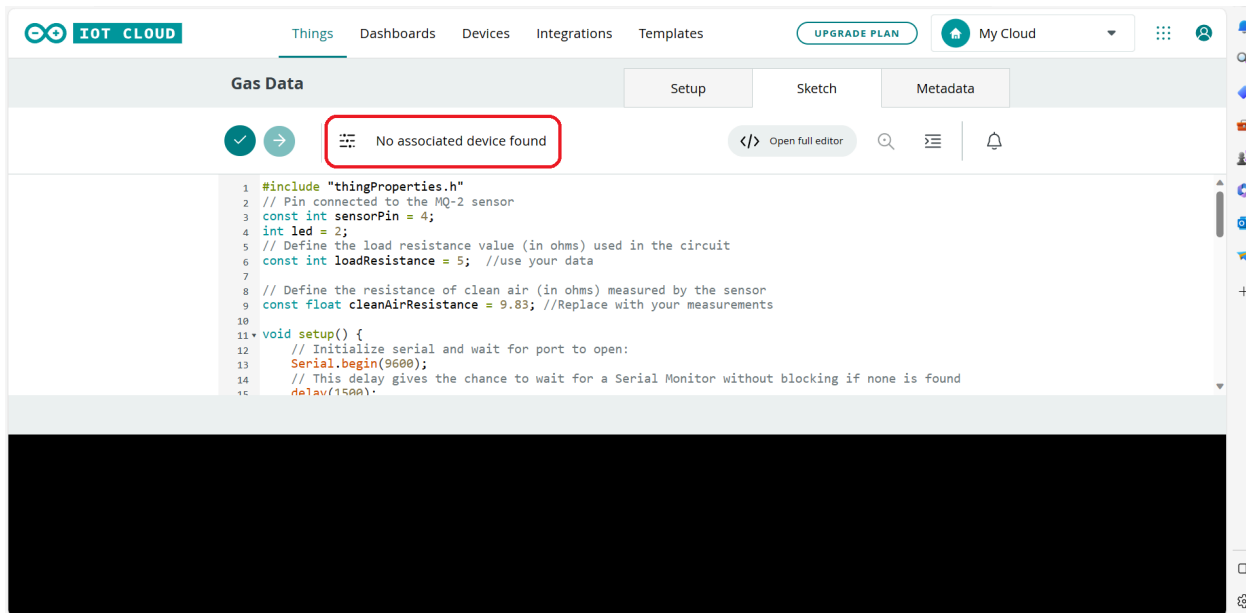

Fig. 28: No Associated Device Found
2. Next, connect the ESP32 to your computer. If you encounter an issue that says '*No associated device found*,' shown in Fig. 28 please click here to download and install the necessary driver. Once installed, you should be ready to proceed.